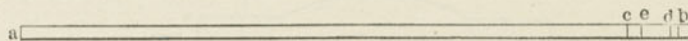

Fig. 242. Thickness Gage.
A. By marking on a smooth slat, Fig. 242, the distance *a b* between wheel hubs and that *a c* between outside frame faces; drawing a line *d* across the stick, at a distance from *b* equal to the desired lateral motion of the engine—say  $\frac{3}{32}$  inch for the front wheels,  $\frac{1}{8}$  inch for the back. The distance *d e* must be double the thickness of the outside driving-box flange; half *e c* will be the outside flange thickness of shoes and wedges.